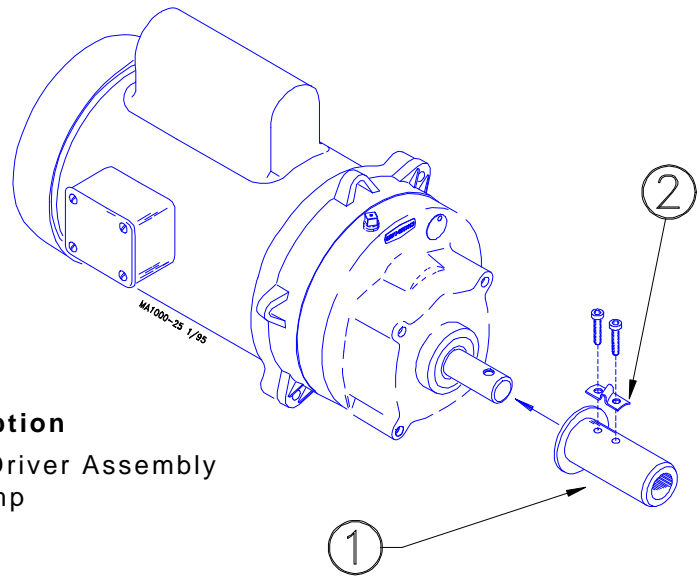

Figure 15. Model 108 Auger Installation (Drive End)
3. Rotate the auger so that it is fully engaged on the Driver Assembly. Tighten the screws securely to clamp the auger to the Driver Assembly. See Figure 15.